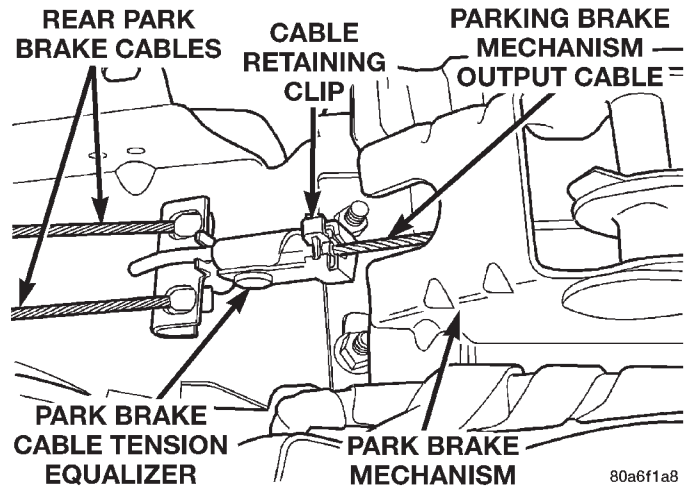
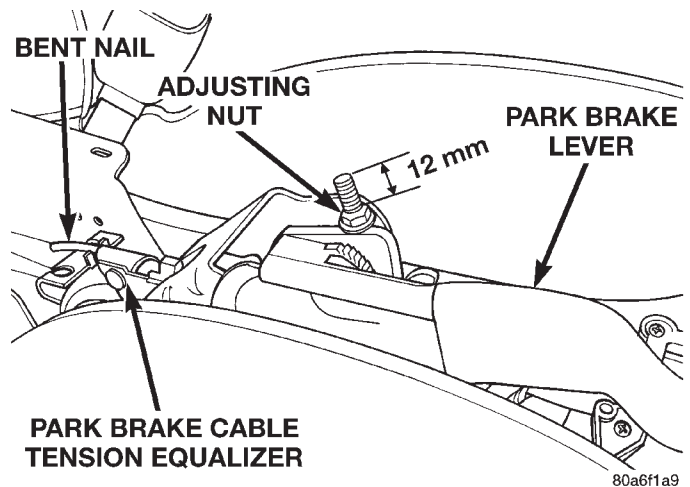

Fig. 140 Cable Retainer Installed On Tension Equalizer
Fig. 141 Parking Brake Adjustment (Rear Drum Brakes)
(5) Install a **new** parking brake lever output cable to tension equalizer retaining clip (Fig. 140) on tension equalizer. The cable retainer (Fig. 140) must be closed and securely latched.
(6) Adjust cable tension for the parking brake system using the following steps.
- On vehicles with **REAR DRUM BRAKES**, tighten the adjusting nut on the parking brake lever output cable until 12 mm millimeters of thread is out past top edge of adjustment nut (Fig. 141).